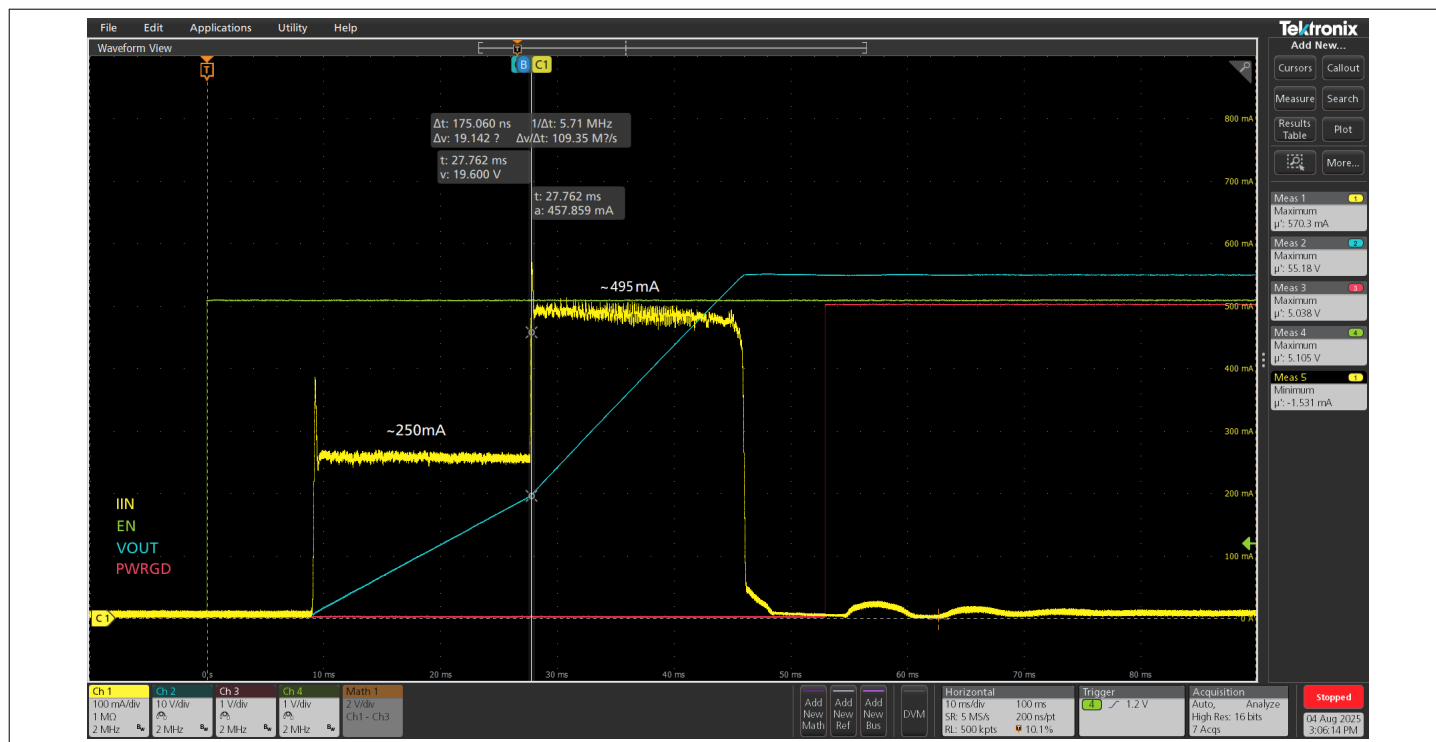

Figure 9 Inrush control for $C_{OUT} = 270 \mu\text{F}$
- The device starts charging the output capacitor by regulating the MOSFET. As shown in Figure 9, the control loop allows an $I_{SOA} = 0.25\text{ A}$ at 54 V .